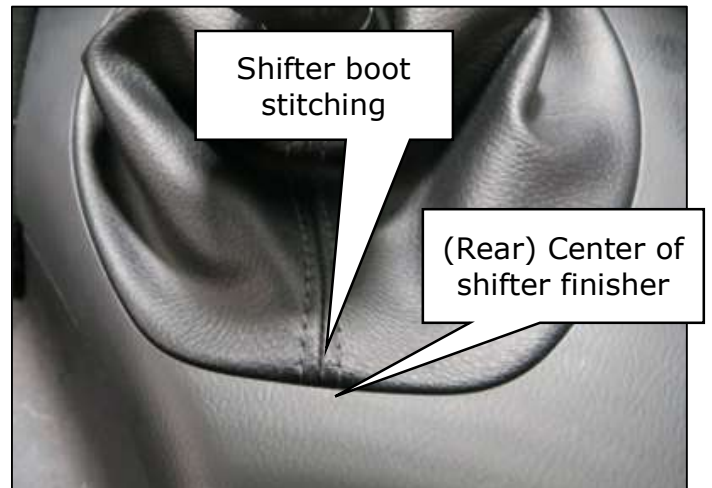

Figure 47
- Position the trim ring/shifter boot over the shifter finisher (Figure 47)
- Verify the shifter boot is aligned with the stitching centered on the front and the rear of the shifter finisher (Figure 47)